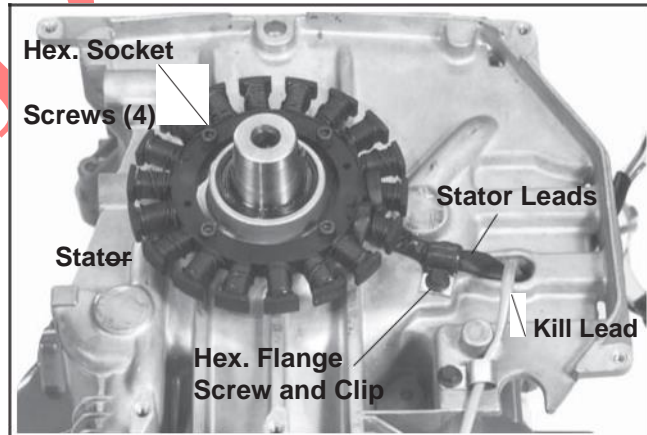

Figure 9-35. Removing Stator.
2. Remove the hex. flange screw and clip securing the stator leads to the crankcase. See Figure 9-35.